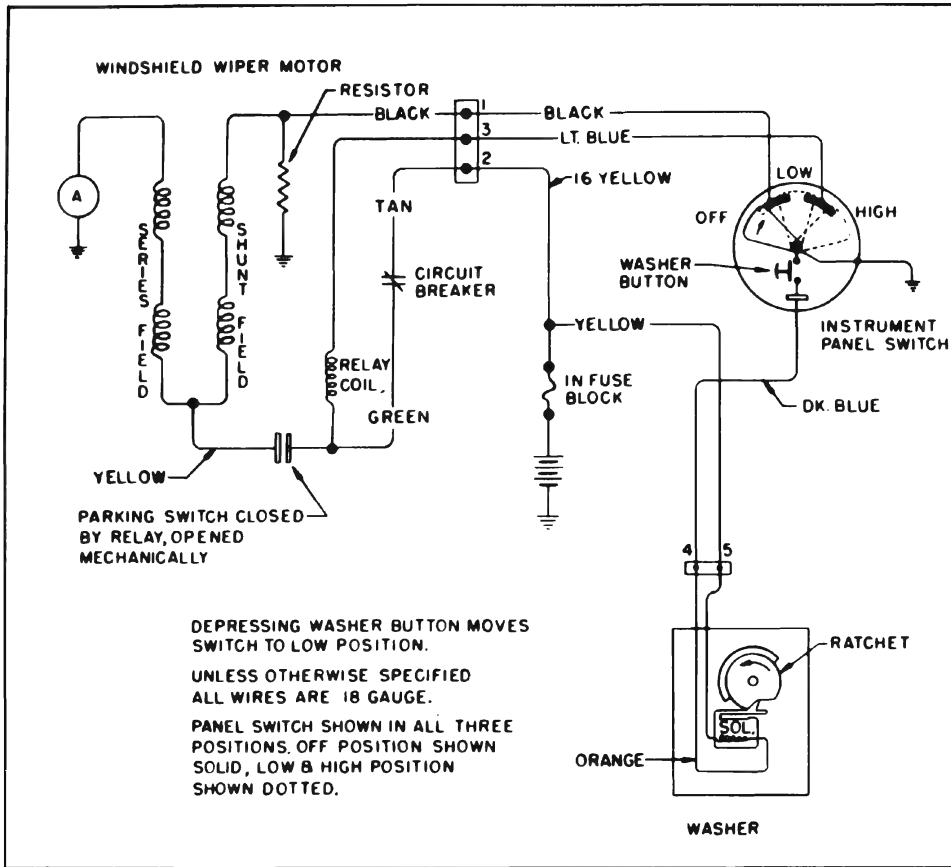

Figure 10-109—Two Speed Windshield Wiper and Washer Wiring Diagram
1. Electrical (See Figure 10-109 for overall wiring diagram.)